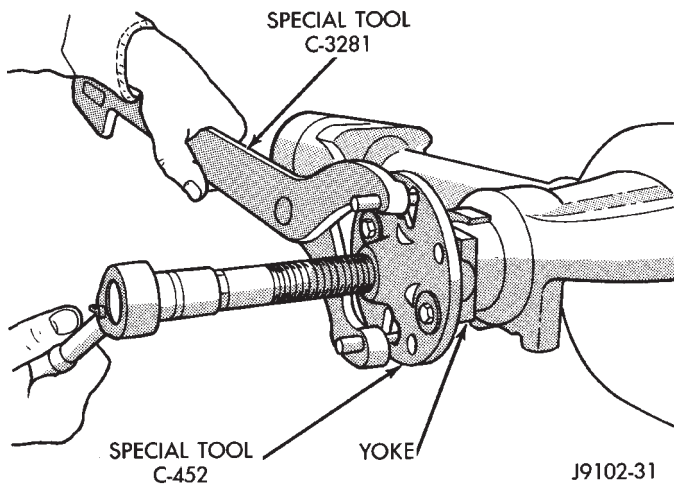
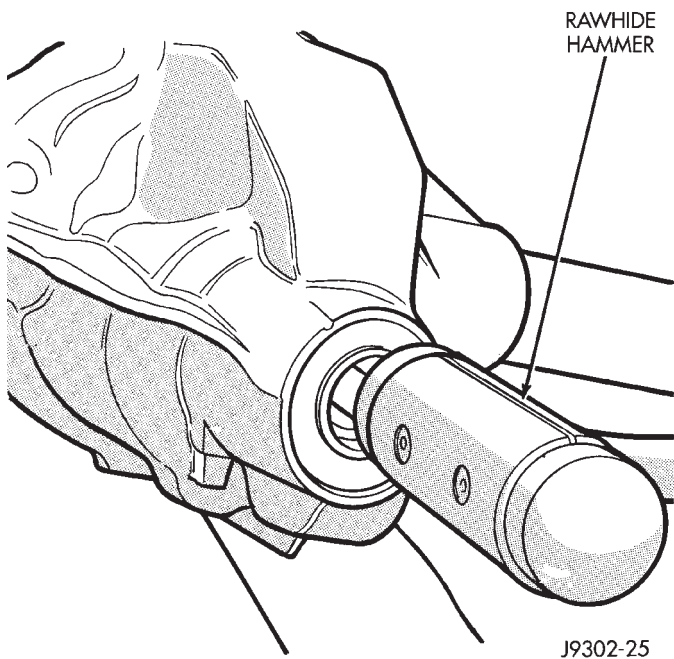

Fig. 16 Pinion Yoke Removal
Fig. 17 Remove Pinion Gear
(1) Remove the pinion yoke nut and washer. Use Remover C-452 and Wrench C-3281 to remove the pinion yoke (Fig. 16).
(2) Remove the pinion gear seal with a slide hammer or pry out with bar.
(3) Remove the pinion gear from housing (Fig. 17). Catch the pinion with your hand to prevent it from falling and being damaged.